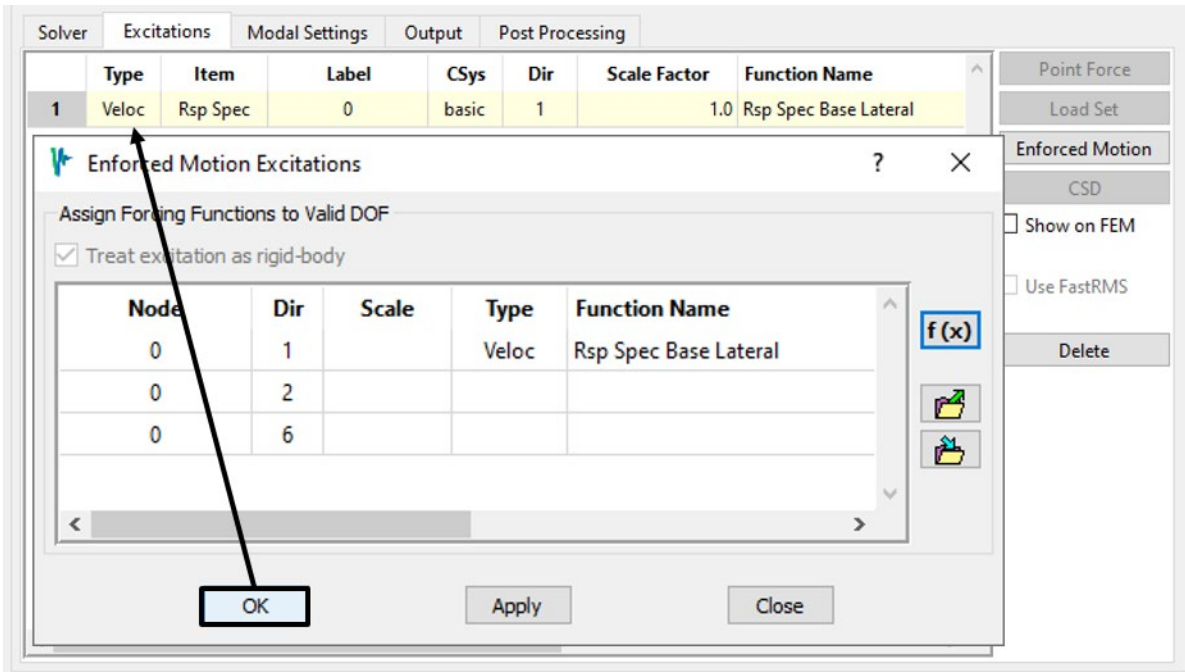

Figure 4-80. The excitation uses the basic coordinate system.
- Click **OK** on the enforced motion dialog to finalize the excitation definition (Figure 4-80). Note that it uses the basic coordinate system. Also note that it is considered part of rigid body motion set; this makes no difference here, but it would be important if more than one direction were being excited.